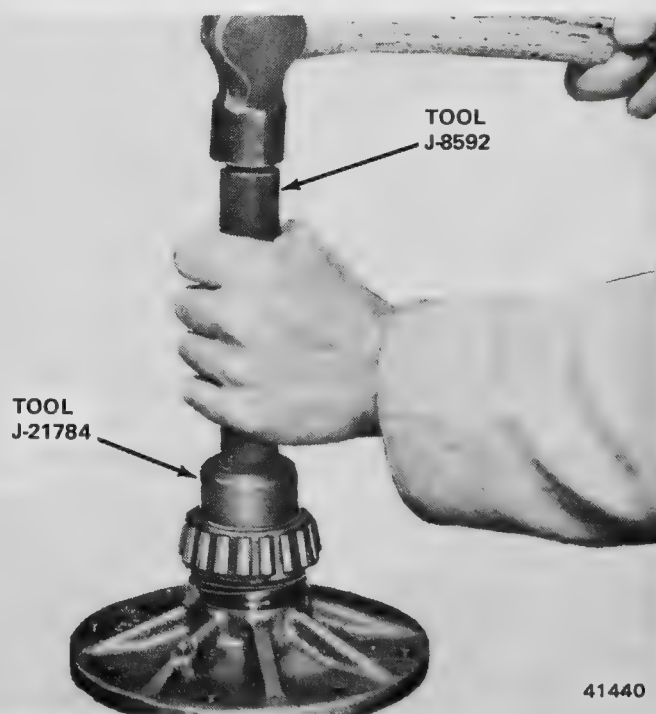

Fig. 2E-26 Differential Bearing Installation
(7) Install axle yoke.
(8) Thread replacement pinion nut on gear.
(9) Tighten pinion nut **only enough to remove bearing end play** using tools J-8614-01 and J-22575 (fig. 2E-9). Rotate pinion when tightening nut to seat bearings evenly.
(10) Continue tightening pinion nut in small increments to collapse spacer and preload bearings. When a very slight increase in pinion turning effort is noted, stop tightening nut and remove tools.
(11) Check pinion rotating torque using inch-pound torque wrench. On 8-7/8 axles, rotating torque must be 17 to 28 inch-pounds (1.9 to 3.1 Nm). On 7-9/16 axles, rotating torque must be 15 to 25 inch-pounds (1.7 to 2.8 Nm).
Install the differential bearings on the case using Driver Handle J-8592 and Bearing Installer J-21784 on 8-7/8 axles or Installer J-21002 on 7-9/16 axles (fig. 2E-26).